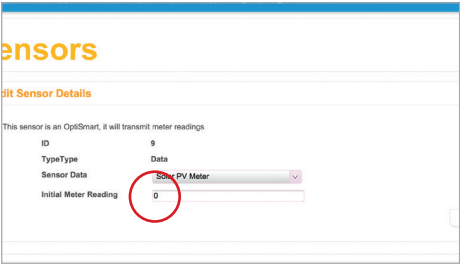

fig.26
- 6. Enter the meter reading as displayed on your meter (fig.26).